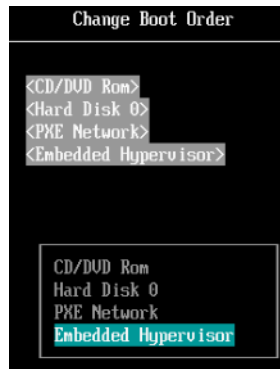

Figure 6-27
6. Change the boot order to Embedded Hypervisor, as shown in Figure 6-27.